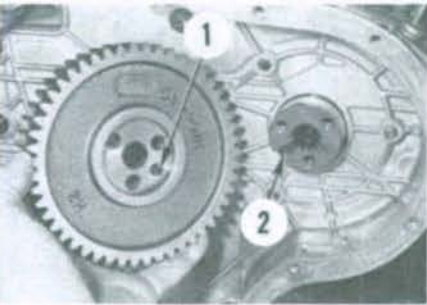

Fig. 69—Correct installation of injection pump drive gear is simplified by the dowel pin which fits in machined notch in pump drive shaft.
67. INJECTION PUMP DRIVE GEAR. The injection pump drive gear is retained to the pump adapter by three cap screws. When installing the gear, align dowel pin (2—Fig. 69) with slot (1) in adapter hub, then install the retaining cap screws. The injection pump drive gear and adapter are supported by the injection pump rotor bearings.